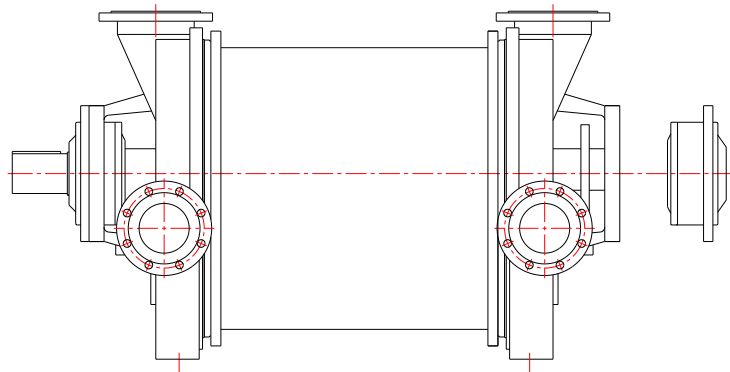

Figure 15. Disassembly of free end
7. Lift off the casing (M100A) (see Figure 15).